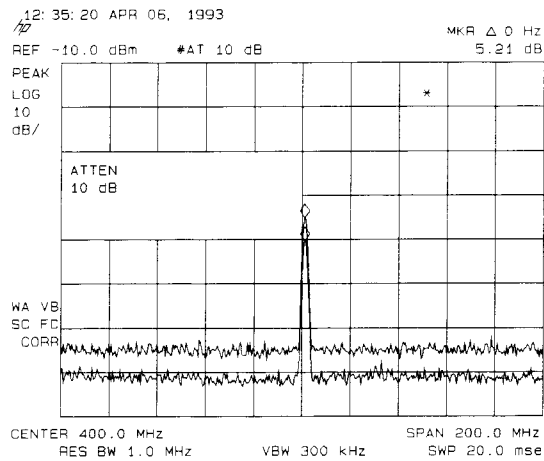
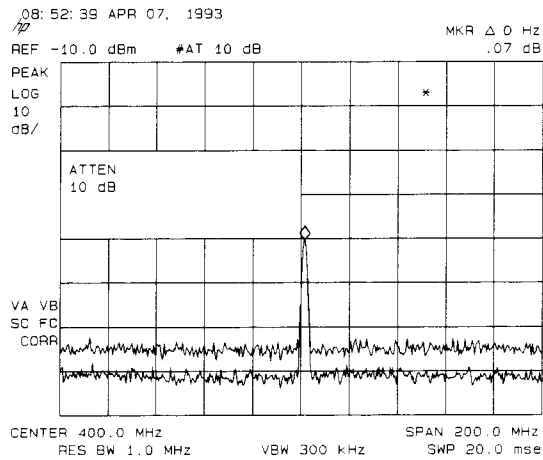

Figure 3-22. RF Attenuation of 10 dB
Figure 3-23. No Harmonic Distortion
5. Next, increase the RF attenuation by 10 dB: press **(AMPLITUDE)**, **ATTEN AUTO MAN**, and the step-up key (**(↑)**) once. (See Figure 3-22.)
If the responses in trace A and trace B differ, as in Figure 3-22, then attenuation is required. If there is no change in the signal level, the distortion is not caused internally. For example, the signal amplitude in Figure 3-23 is not high enough to cause internal distortion in the spectrum analyzer so any distortion that is displayed is present on the input signal.